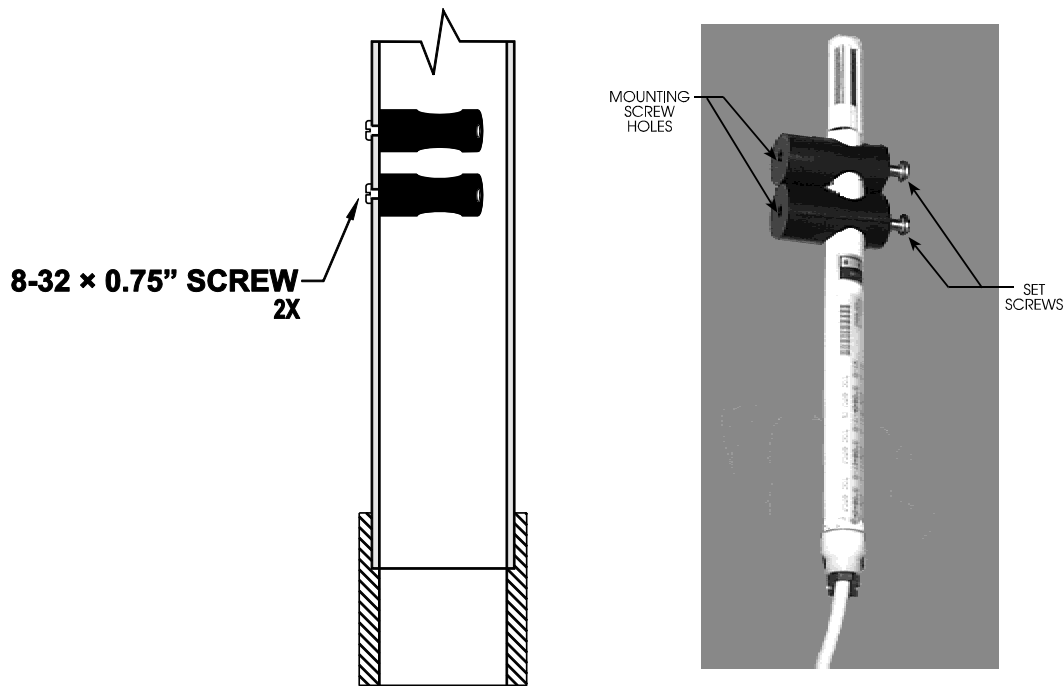

Figure 5. Installing the Probe Mounting Blocks
The probe is mounted close to the bend above the air intake of the MARS using two mounting blocks that are attached with two screws on the inside of the MARS as shown in Figure 5.
2. Two mounting blocks are used to position the probe inside the vent tube (Figure 5). Slide the first mounting block over the probe and position it near the filter end of the probe. With the Model 5190-D probe, position the block so that the set screw is over the flattened notch in the probe case. Tighten the set screw just enough to secure the probe, but do not overtighten. Overtightening the screws will damage the probe. The mounting blocks serve only to position the probe in the center of the vent tube, not to support it inside the tube. Even with the set screws loose, there is no danger of the probe dropping out of the MARS.